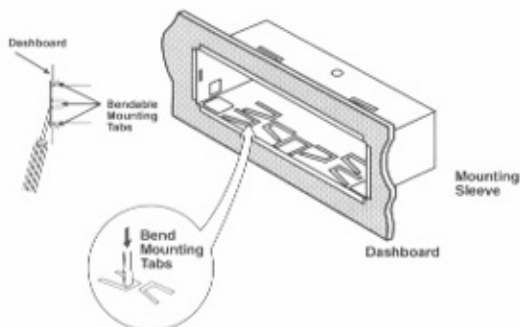

Figure 9. Securing the Mounting Sleeve.
4. Secure the mounting sleeve to the dashboard by bending the flanges 90° . Use a screwdriver and/or pair of needle nose pliers, if necessary (see Figure 9).